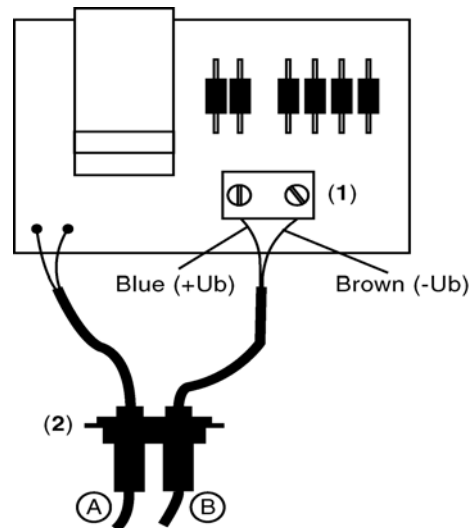

Fig. 2.135 Connecting the battery cable to desktop power adapter LT25W
4. Connect the supplied cable to the terminal (1) as shown in Fig. 2.135
5. Replace the cable feed-through (2) (Fig. 2.135) for a cable with the one supplied for two cables